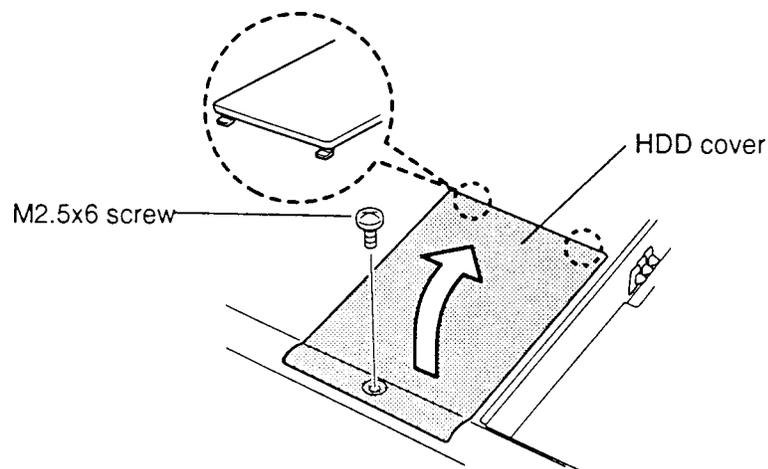

Figure 4-4 Removing the HDD Cover
To remove the computer's hard disk drive, follow the steps below and refer to Figures 4-4 through 4-7.
3. Remove the **one M2.5x6 screw** from the **HDD cover** (Figure 4-4).
NOTE: The HDD cover is held in place by one screw and two latches. Be careful to rotate the cover out as indicated in Figure 4-4 when removing it, and engage the latches first, then rotate it into place when seating it.
To install the computer's HDD, follow the steps below and refer to Figures 4-4 through 4-7.
4. Replace the **HDD cover** and secure it with the **one M2.5x6 screw** (Figure 4-4).